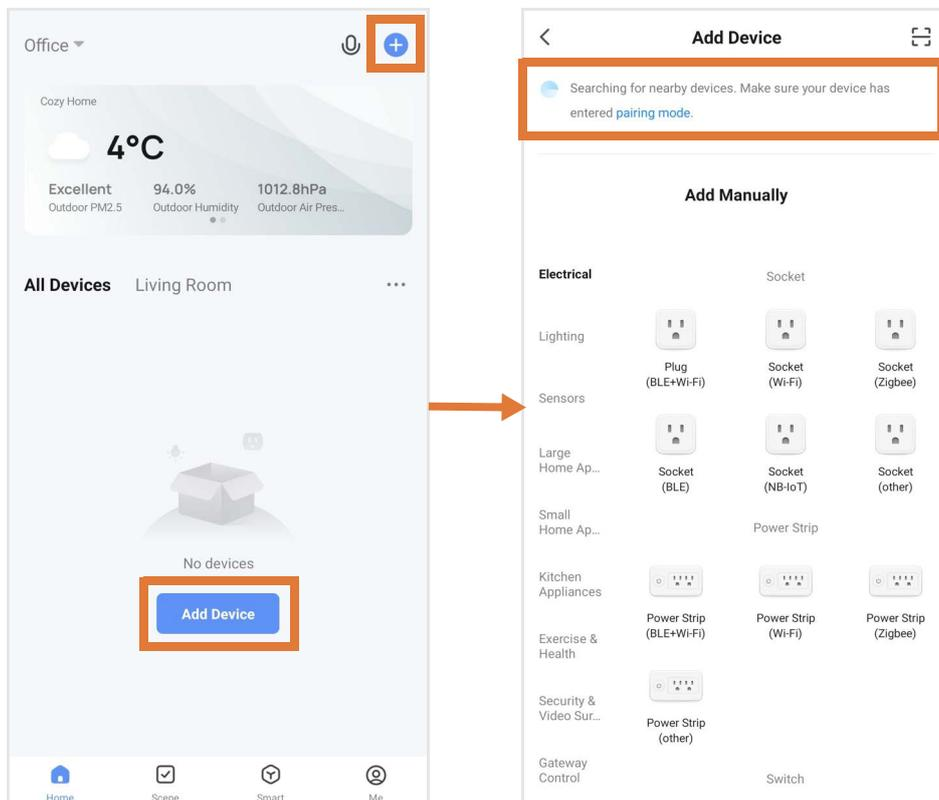

Figure 7 | Adding device on Smart Life app
- The app should start scanning, as shown by the icon at the top of the screen (see **Figure 7**). If this icon and text does not show, press  in the top right-hand corner.